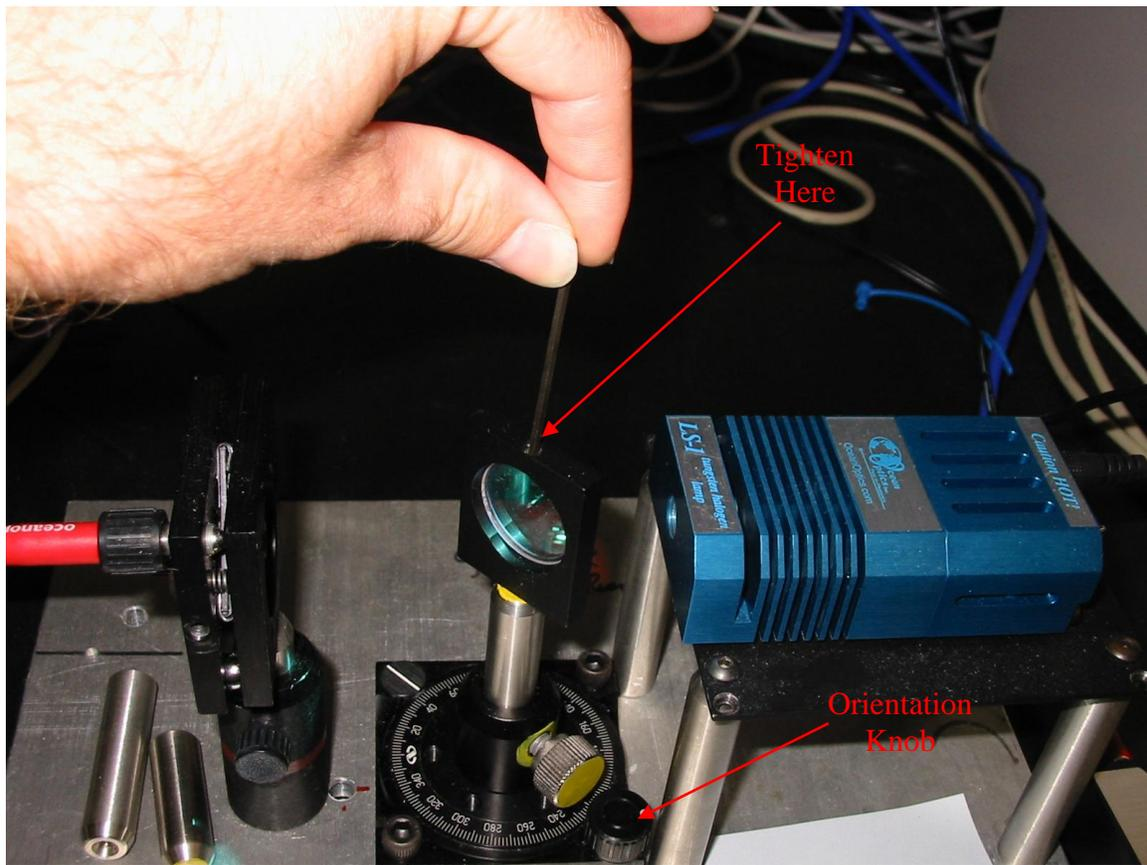

Figure 4
17. Insert the filter to be measured into the filter clamp and tighten with an allen wrench, as shown in Figure 4.